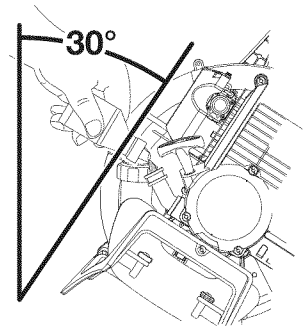

Fig. 9
5. Tilt the unit 30° to the side (Fig. 9).